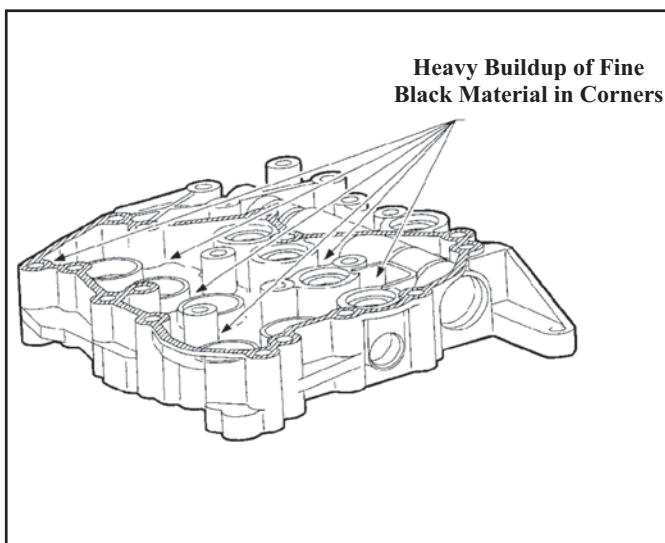

Figure 181
13. Before installing the actuators into the upper valve body, carefully inspect for heavy metal build up in the corners as shown in Figure 181.
- IMPORTANT:** Some transaxles may have been manufactured with iron sediments that migrates to the control body assembly causing deposit buildup on the upper valve body as shown in Figure 181. This also may cause the actuator valves and or valve body valve to seize or become sticky. Careful inspection of the actuators and valves must be taken.